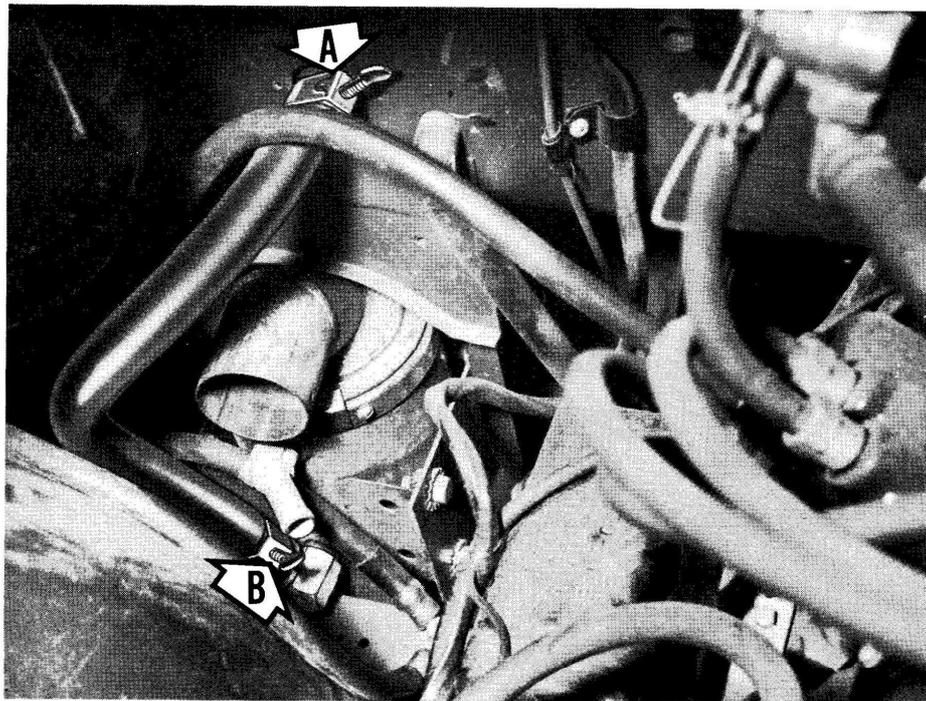

Fig. 16. (A) Coolant hose connected to battery pad outlet. (B) Coolant hose connected to heater inlet.
- c. Connect the other end of the hose to the heater inlet (bottom), Fig. 16.